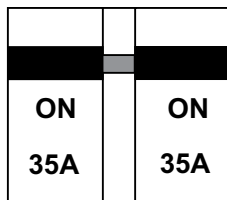

Figure 19. Main Circuit Breaker (ON)
12. Place main circuit breaker (Figure 19) in the **ON** position.